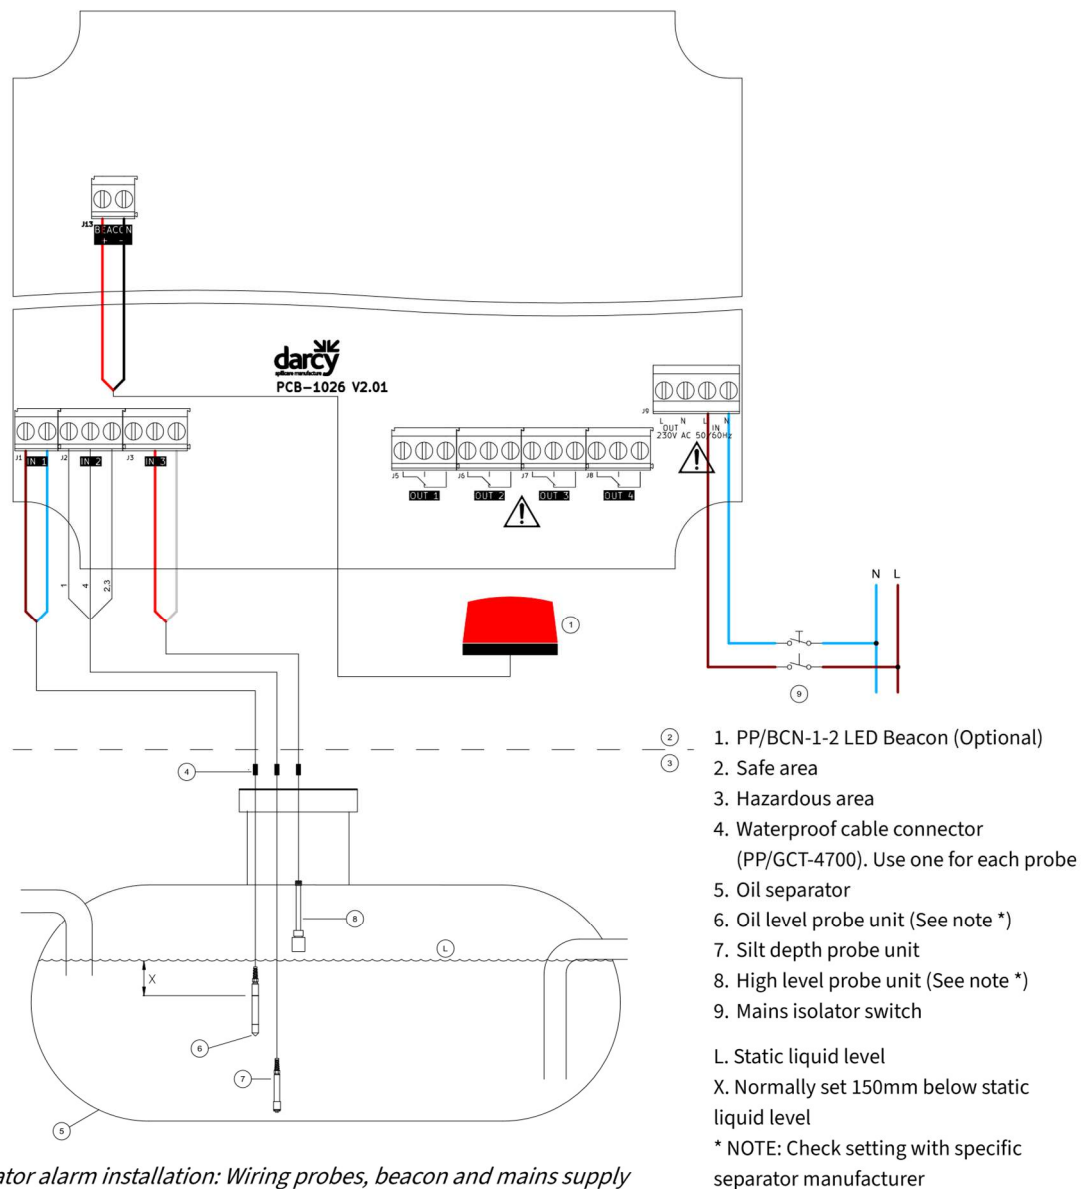

Figure 2: Oil separator alarm installation: Wiring probes, beacon and mains supply
6. Wire the float, conductivity, or silt probe cables into J1 ... J3 terminals on the PCBA inside the alarm according to Figure 2 and Table 3, Table 4 and Table 5.